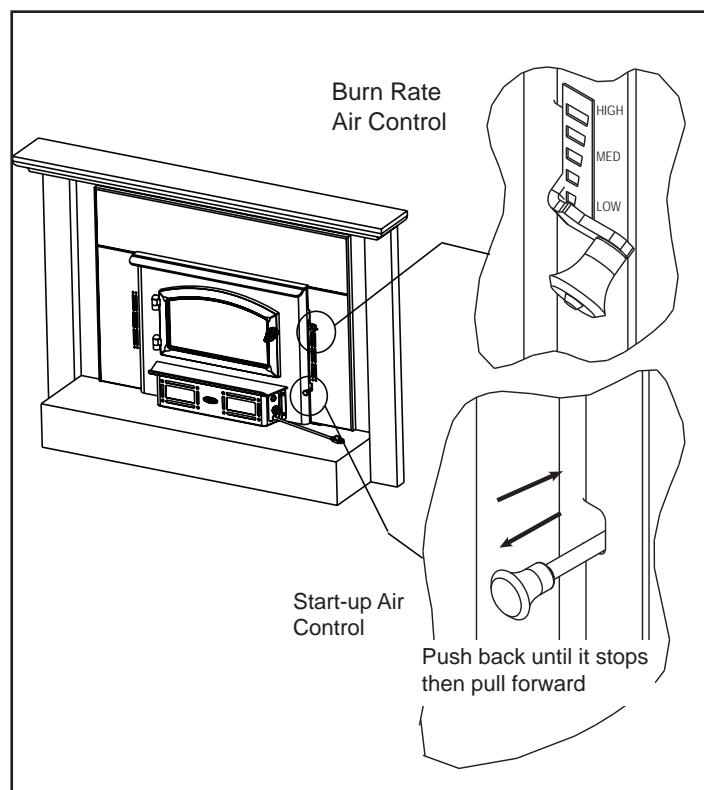

Figure 10.1 Start-up and Burn Rate Air Controls
The air control located at the upper right hand corner is used to adjust for burn rates. This is called the Burn Rate Air Control. **Figure 10.1 on page 10.**
- Push the Start-Up Air Control all the way back until it stops and then pull forward to the front of the appliance until it stops. **Figure 10.1.**
- The fire is now controlled by the air supplied by the Burn Rate Air Control. **Figure 10.1.**